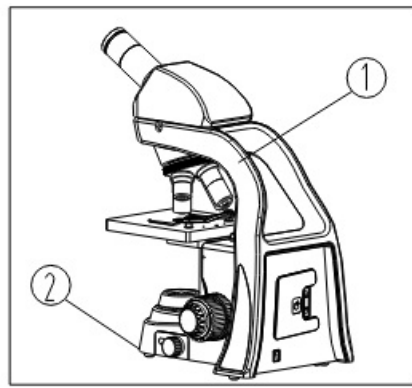

Fig. 1
3. When moving the microscope, keep holding the rear cover hand clasp① and the front end of microscope body ② with each hand. Handle with care. (See Fig. 1) It will damage the microscope by holding the stage, focusing knob or head when moving